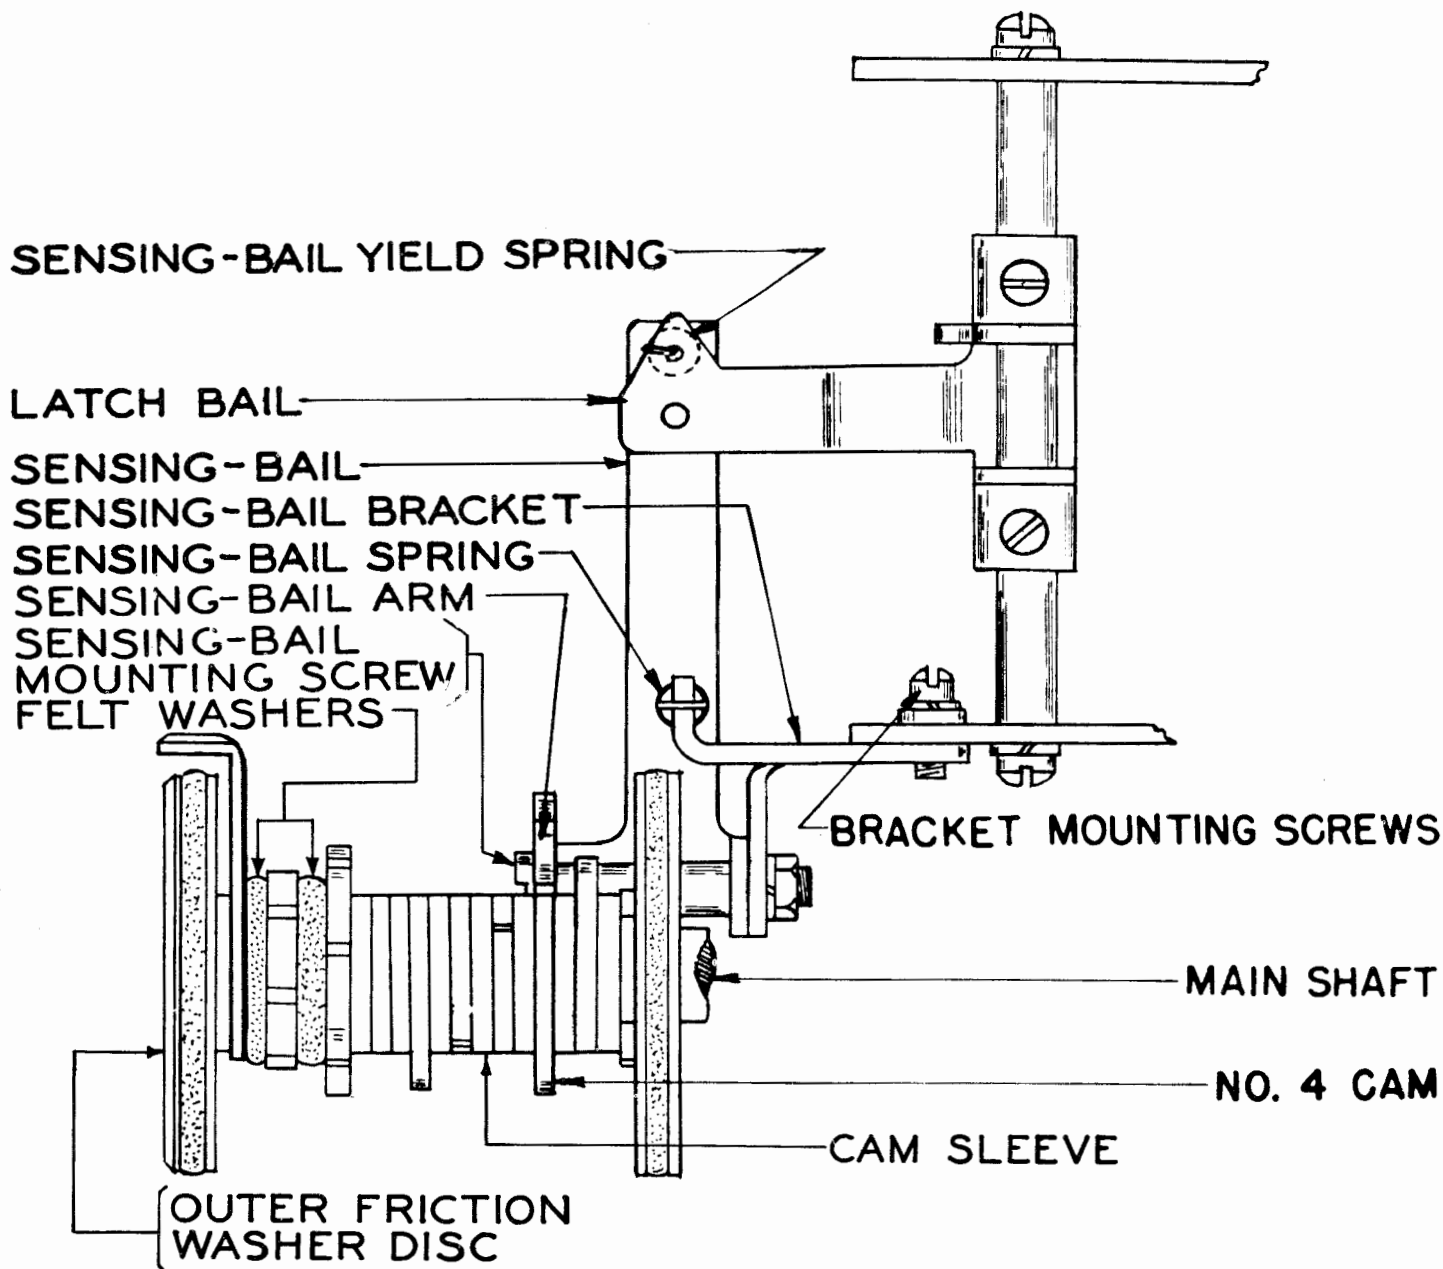

Figure 6
- (5) If those procedures do not meet the requirements, change the friction-clutch spring.
- (6) To add shims or to change the nuts or the clutch spring: [ For SOTUS see note following (b)]
- (a) Proceed as in (3).
- (7) For the SOTUS, the following replaces steps (4) and (6):
- (a) Remove the timer sensing-bail mounting screw and allow the sensing-bail to hang out of the way. (See Figure 6.)
- (c) Remove the outer friction-washer disc from the main shaft by applying a screwdriver to the slot in the disc and turning in a clockwise direction while holding the main shaft. (See Figure 6.)
- (d) Remove the selector camsleeve by slipping it off the shaft. (See Figure 6.)